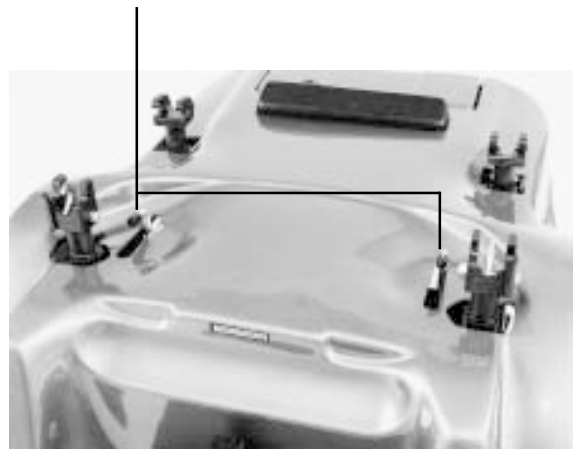

Figure 10. Drive Engaged
2. Turn the freewheel levers inward to engage the drive motors. See figure 10.